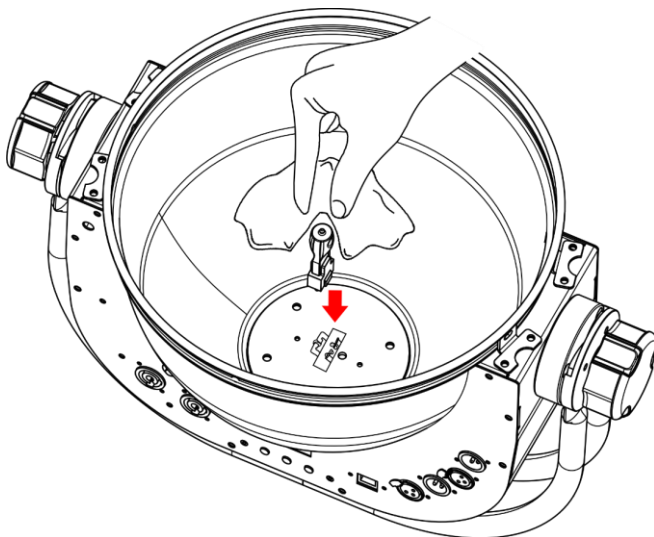

Fig. 08
- 07) Carefully connect the LED strip to the 2 connectors (Fig.08).